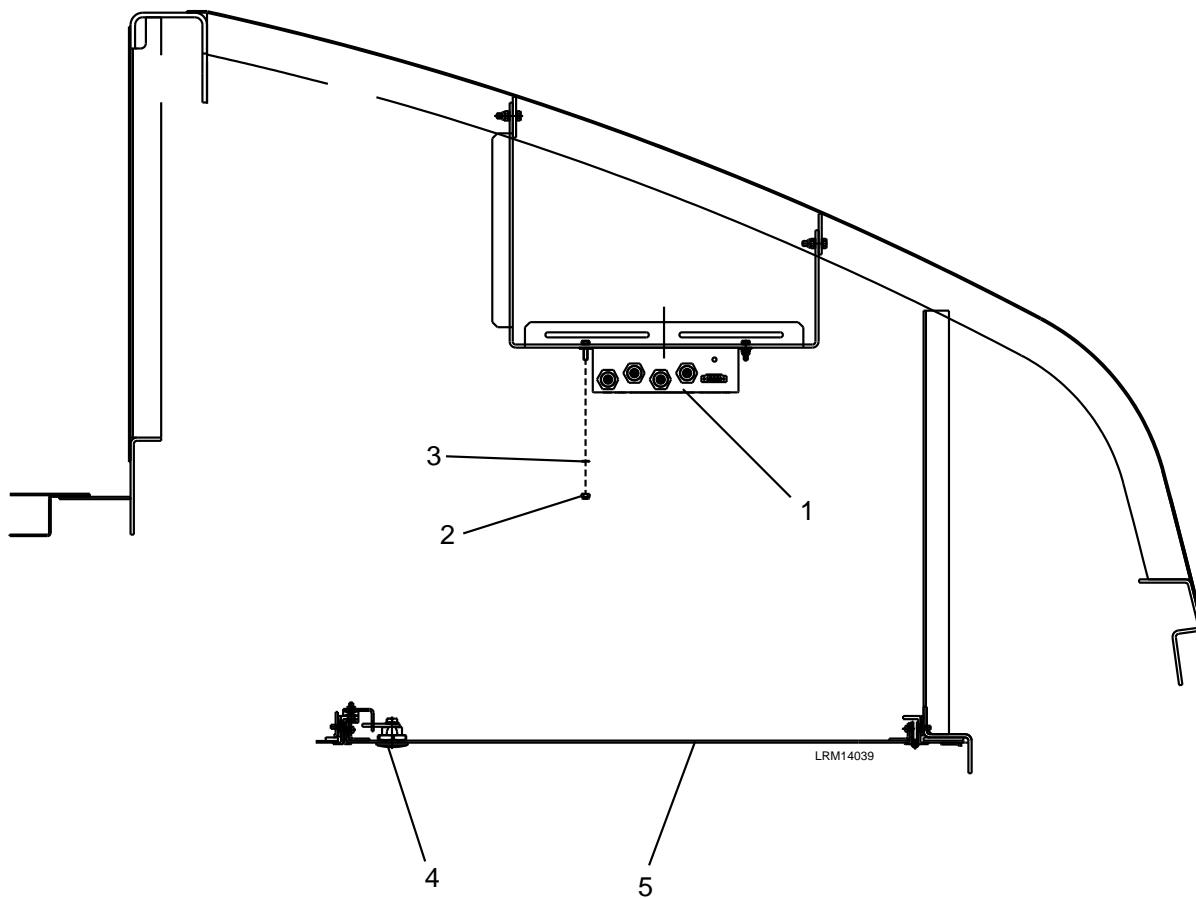

Figure 8-7: VGA Extender Send Unit
1. Unlock the two locks (4) and lower the cab ceiling panel (5) to access the VGA Extender Send Unit (1) and disconnect the electrical connections using a Torque Screwdriver for the M12 connections. See Figure 8-7.
2. Remove the four M4 hexagon nuts (2) and M4 plain washers (3).
3. Carefully remove the VGA Extender Send Unit (1).